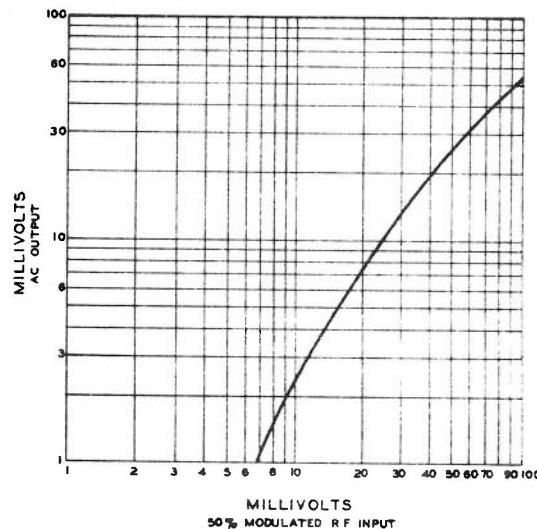

Figure 4-7. Curve Showing Modulated RF, IF Voltage Input to Test Prod MX-934/U vs. AC Output Voltage
(5) When connected to the Test Prod MX-933/U, the Signal Tracer can be used as a null voltage indicator. The sensitivity of AC impedance bridges can be increased by connecting the bridge output into the input of the Signal Tracer. Care should be taken that both the Signal Tracer and the ground side of the bridge are externally grounded at the same point.
(6) When used with Test Prod MX-934/U and Extension Rod the Signal Tracer is a radio interference locator. A common source of radio interference is the arcing at the brushes of electric motors. With the aid of the Telephone Receiver as a detector, the Prod is moved into the vicinity of the suspected motors. Once the interference can be heard in the earphone, the Prod is moved in the direction of loudest signal to the arcing brushes.
(7) The Test Prod MX-934/U and Signal Tracer can be used to check the approximate gain of RF and IF amplifier stages. (See paragraph 4c.) (A sine wave generator must be used for these gain tests, as the generated signals from the Interference Generator are attenuated rapidly by tuned circuits, and this unit can only be used for audio gain checks.)
(8) With Test Prod MX-934/U the Signal Tracer can be used for servicing low level RF lines. To check a line for center conductor continuity, open the line at a jack and place the Prod near the center conductor. Audio modulation of the RF voltage is detected through the earphone. An RF line carrying its maximum power should not be opened. A mismatch may occur with arcing of the line.
(9) The RF Test Prod MX-934/U can be used as a demodulator for an oscilloscope or an electronic voltmeter. Figure 4-7 shows the relation between 50% modulated IF or RF voltage input and modulation voltage output of the Prod.